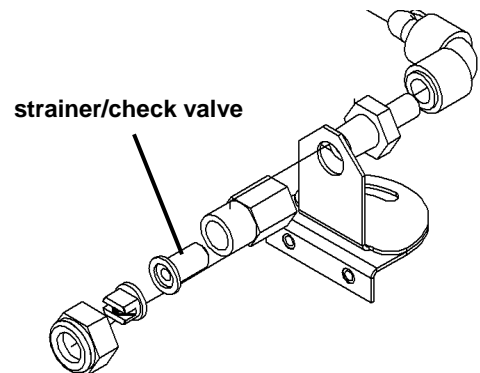

Figure 4-15
1. Unscrew the spray head collar (tip retainer) to release it from the body. The collar, spray nozzle, and strainer/check valve will be released (see Figure 4-15).